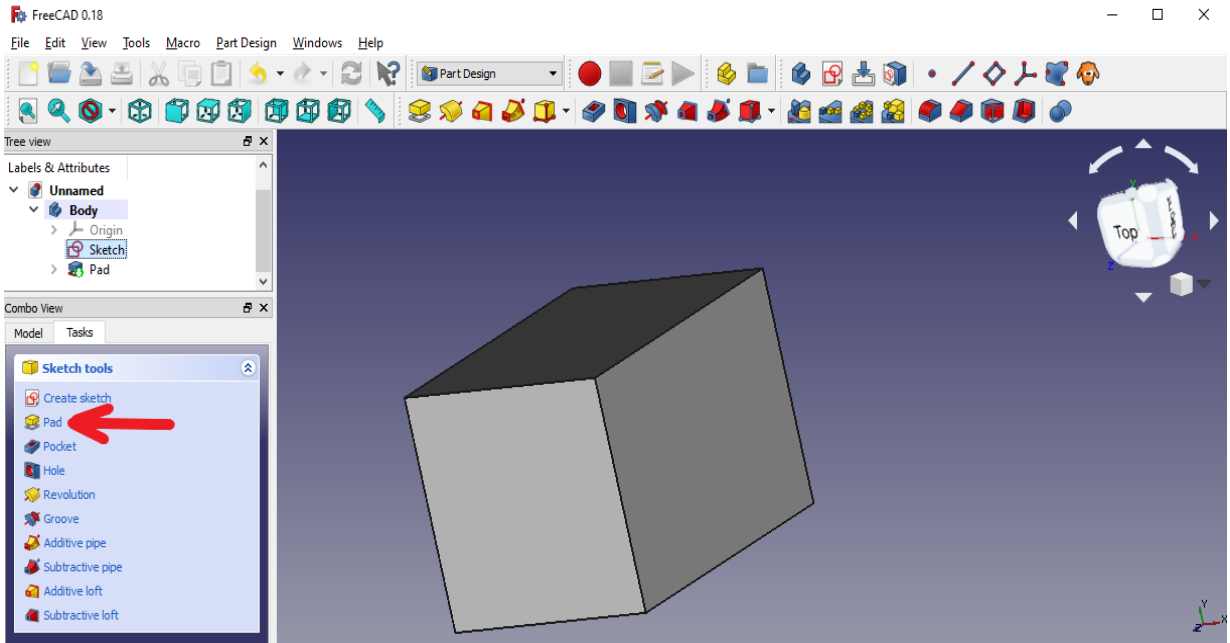

Figure 19 – Working with the **Pad** command
1. Select the **Pad** command in the **Task** section of the Combo View (Figure 19).